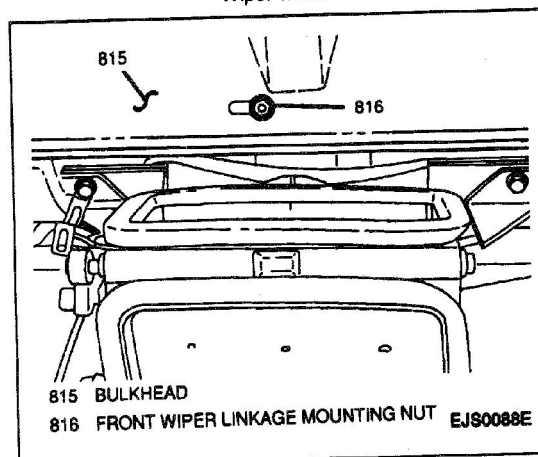

Figure 10—Front Wiper Linkage Mounting Nut
14. Front wiper linkage mounting nut from interior side of bulkhead (Figure 10).